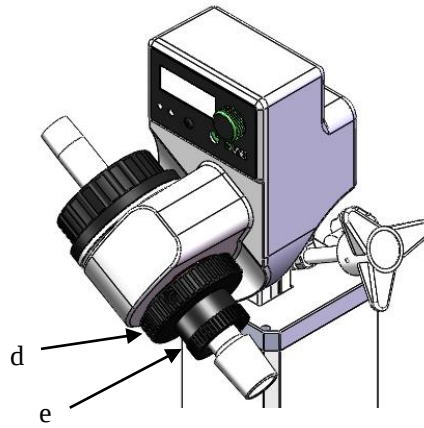

Fig. 3
- Rotate the locking device (d) (Fig. 3) by 60° counterclockwise to mount the evaporating tube in place, and rotate the locking device (d) clockwise for locking